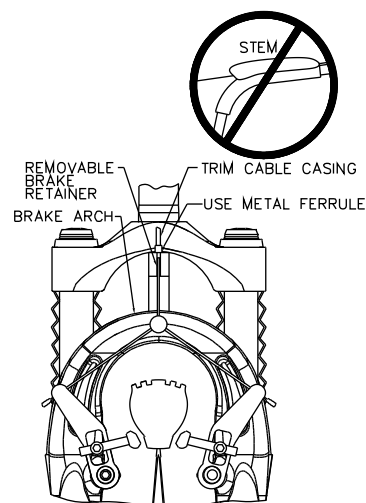

FIGURE 2: BRAKE CABLE ROUTING
**Note:** The 98 SX comes equipped with a hangerless arch. Brake cable hangers that attach to the arch are available through your dealer. See Figure 2